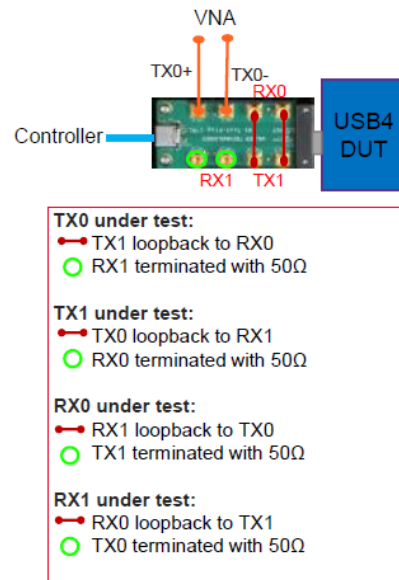

Figure 170 SMP test fixture - Tx/Rx lane switching
- 8 In case of SMP test fixture, Tx/Rx lane under test can be switched as shown in Figure 170.